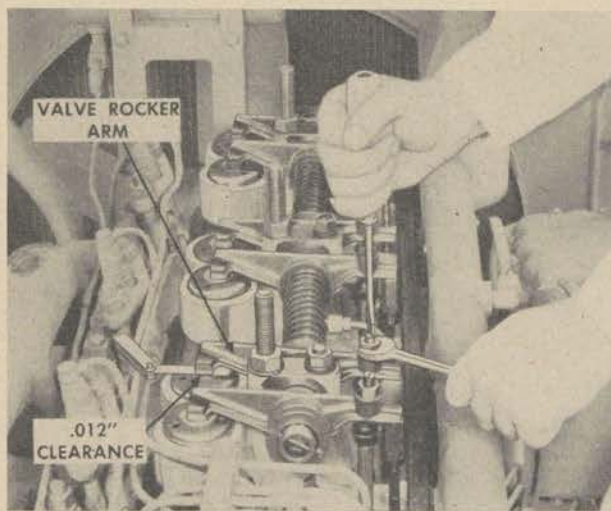

Figure 149. Valve clearance adjustment.
4. Loosen the valve adjusting screw lock nut on the valve rocker arm (See fig. 149.) Insert the feeler gage between the sleeve over the valve stem and valve rocker arm. Turn the screw to obtain 0.012-inch clearance. Clearance should be the same for both inlet and exhaust valves.